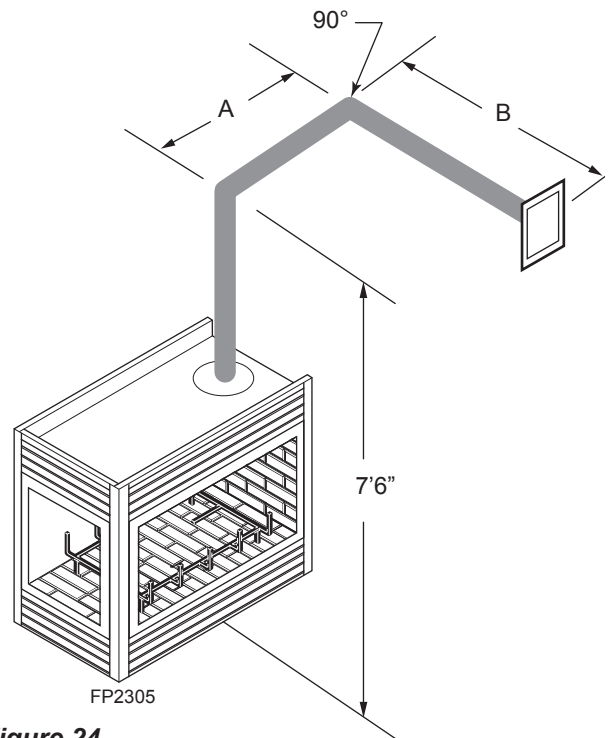

Figure 24 - Horizontal Run Reduction
- If a 90° elbow is used in the horizontal vent run, the horizontal vent length is reduced by 36" (914 mm). *Figure 24*. This does not apply if the 90° elbows are used to increase or redirect a vertical rise. *Figure 24*